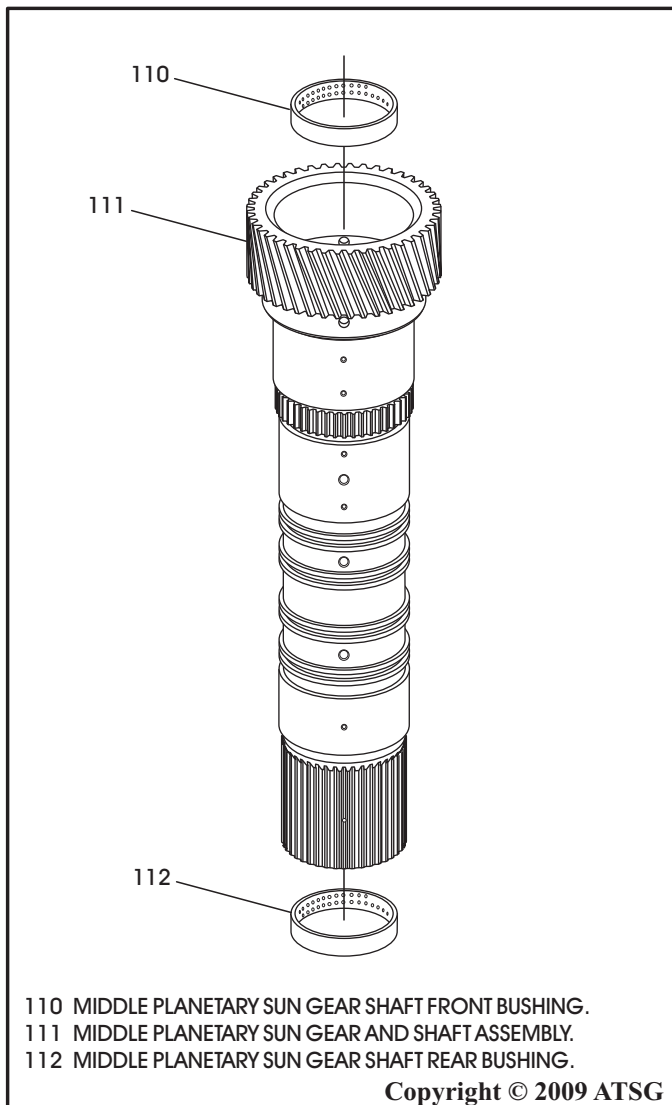

Figure 115
5. Install new bushings as necessary in sun gear shaft assembly, as shown in Figure 115, using the proper driver.